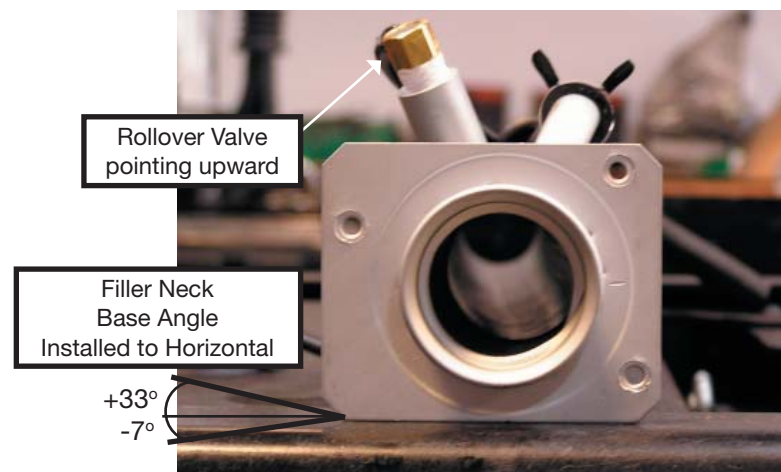

Figure 6
The fuel filler neck (5) must be installed with the proper orientation on the body. The neck should be installed with the roll-over valve pointing upward, with the bottom edge of the neck oriented parallel to the ground, plus or minus 33, minus 7 degrees. See **Figure 6**. for the proper orientation.